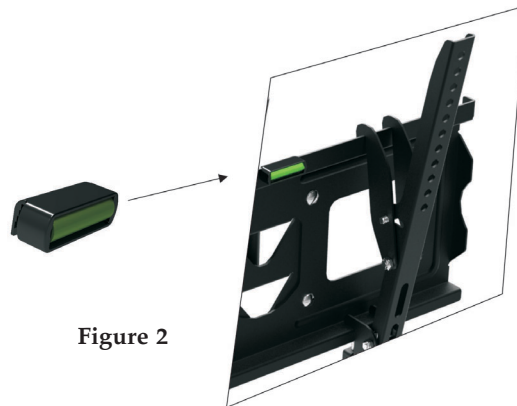

Figure 2
2. Attach the bubble level (L-2) to the wall plate and with the help of an assistant ensure the wall plate is level, position the wall plate against the wall in the desired mounting location (Figure 2).